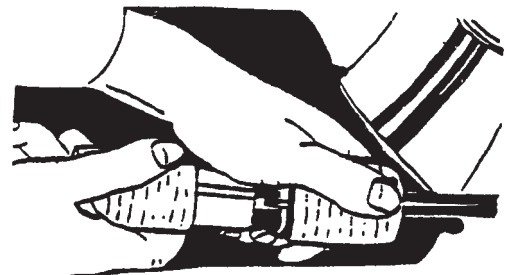

Figure 3
2. Make sure the control switch is set to "OFF". For the "OFF" position, the switch is actuated towards the operator. See the markings on the switch. Connect the supply cable to the motor electric cable. (Figure 3)